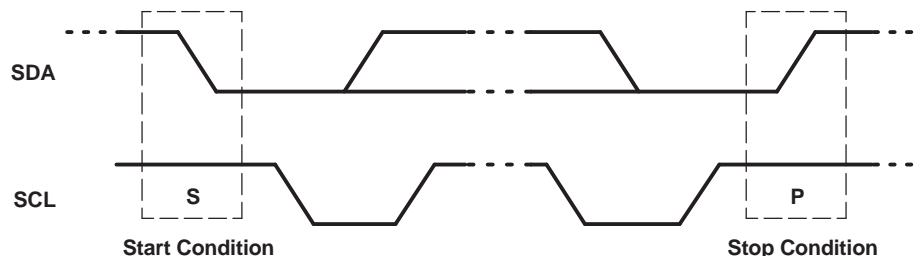

Figure 8. Definition of Start and Stop Conditions
Both data and clock lines remain high when the bus is not busy. A high-to-low transition of the data line while the clock is high is defined as the start condition (S). A low-to-high transition of the data line while the clock is high is defined as the stop condition (P) (see Figure 8).